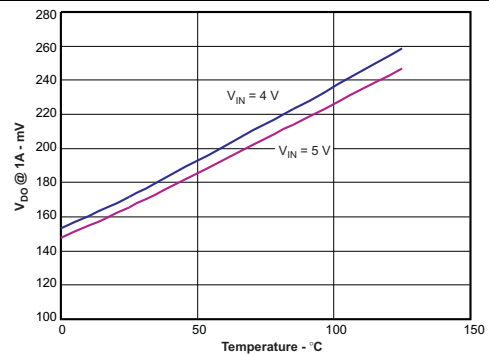

Figure 2. Dropout Voltage (IN to OUT) vs Free-Air Temperature
• Moved Figures 2 through 11 from Typical Characteristics to Application Curves section .....	6